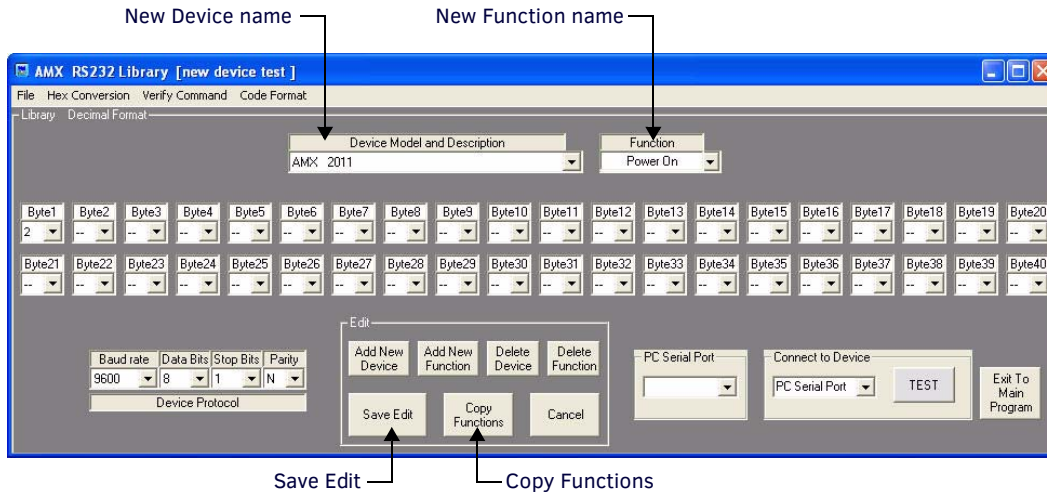
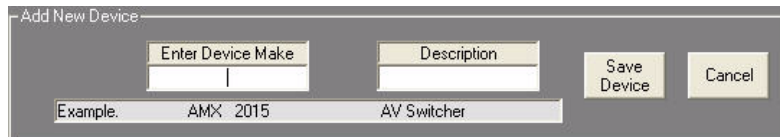

FIG. 63 AMX RS232 Library dialog (for a new device)
FIG. 64 AMX RS232 Library dialog - Add New Device window
2. Enter the *Device Make* and *Description*, then click **Save Device**. This opens a new *AMX RS232 Libraries* dialog for the new device (FIG. 63).
1. Select the device to copy from then click on **Copy Functions** (in the *Edit* options - see FIG. 63). This invokes the *Add New Device* window (FIG. 64).